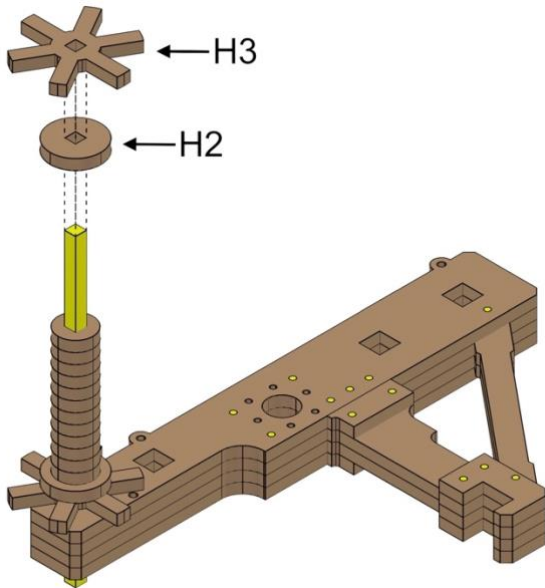

Fig. 33
- Align parts exactly as shown in *Fig. 33*.